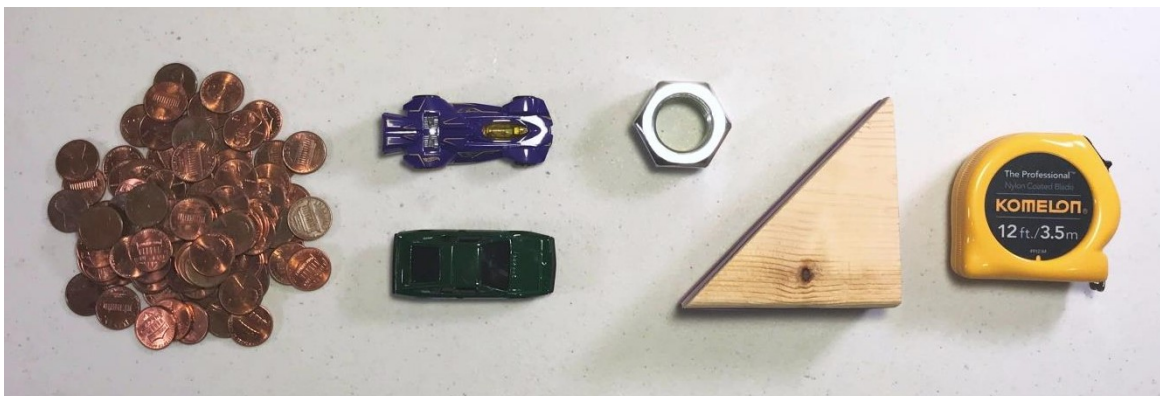

Fig. 4: Possible weights to hang from the spring (100 pennies, Hot Wheels cars, Hex Nut, Wood Block, Measuring Tape).
2. Next, find various weights (from the lab kit or otherwise) that will fit in the carrier, individually weigh less than the spring balance maximum, and together with the carrier and your smartphone, add up to around 0.8 – 1kg (see Fig. 4).